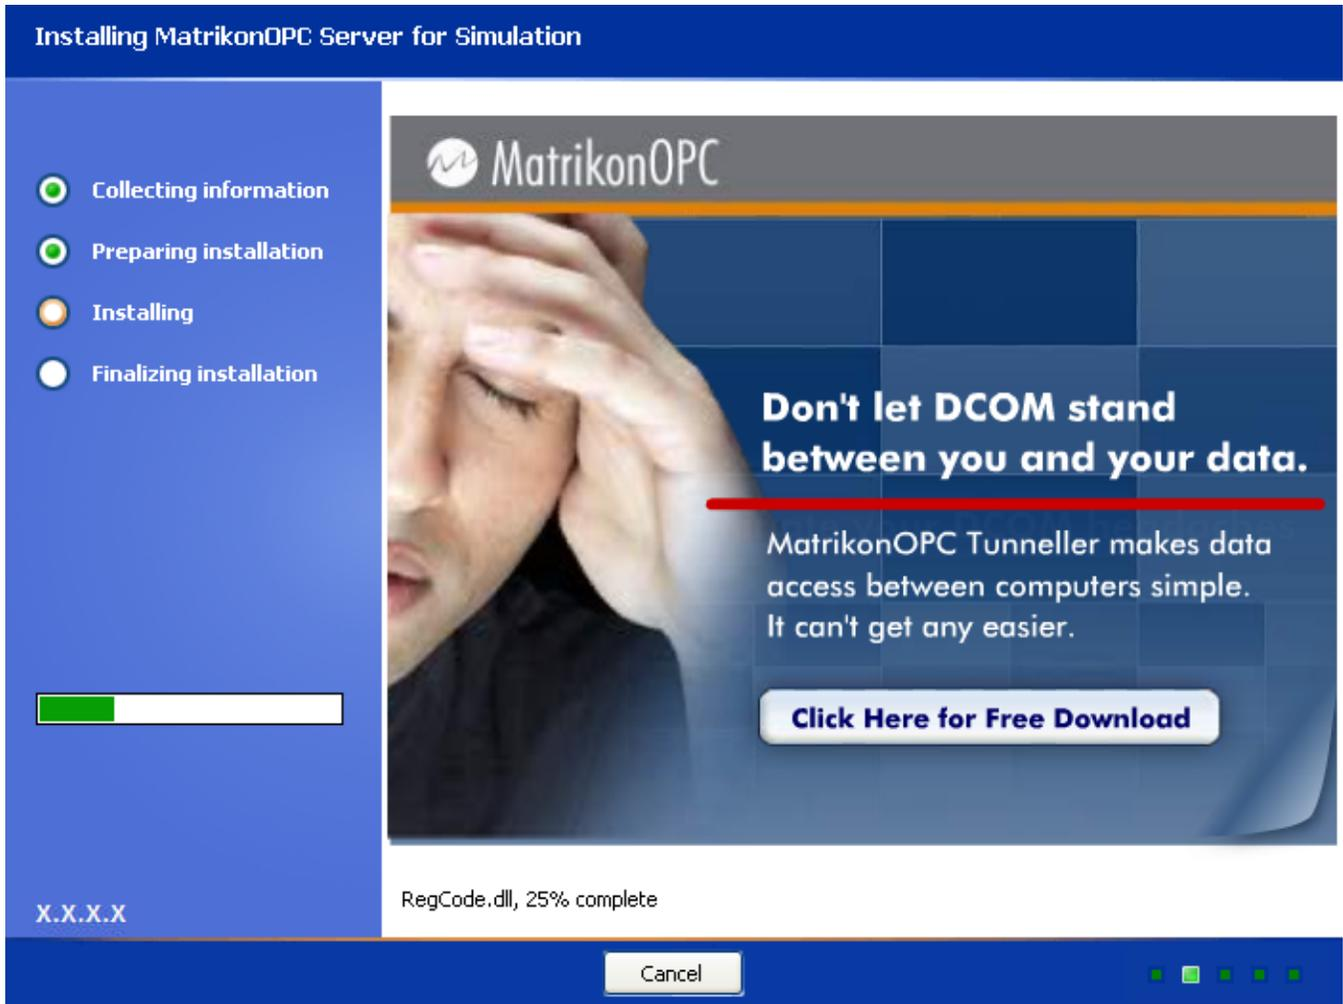

Figure 8 - Installing MatrikonOPC Server for Simulation Screen
14. Click on the **Next** button. The **Installation MatrikonOPC Server for Simulation** screen (Figure 8) appears, installation begins, and the server files are copied to the computer.